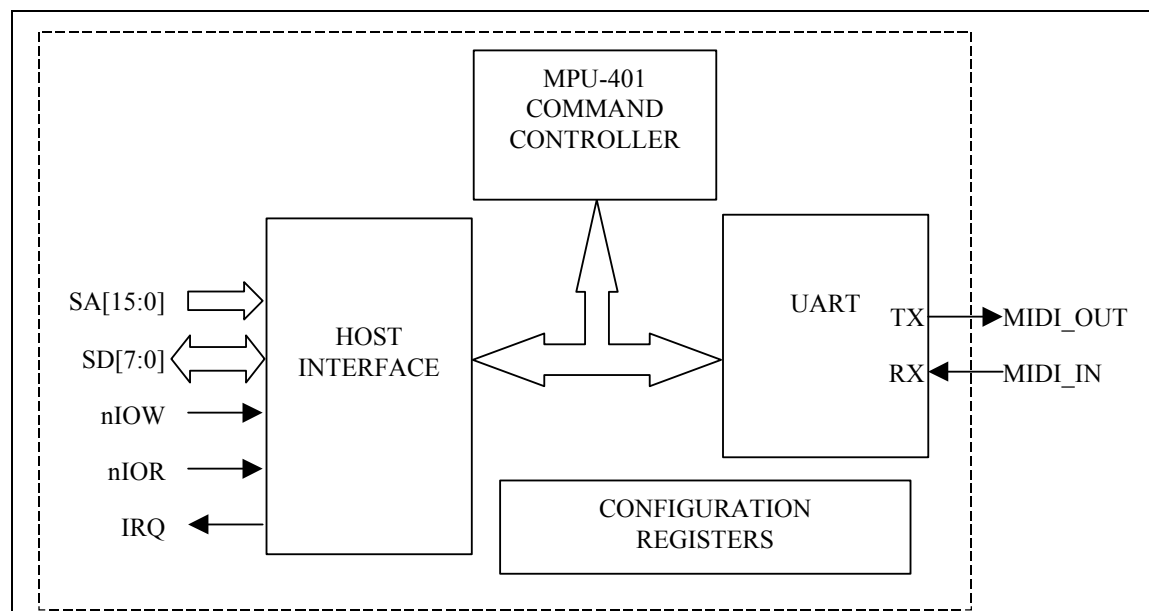

FIGURE 3 – MPU-401 MIDI INTERFACE
Serial Port 3 is used exclusively in the LPC47M14x as an MPU-401-compatible MIDI Interface. The LPC47M14x MPU-401 hardware includes a Host Interface, an MPU-401 command controller, configuration registers, and a compatible UART (FIGURE 3).
The Host Interface includes two contiguous 8-bit run-time registers (the Status/Command Port and the Data Port), and an interrupt. For illustration purposes, the Host Interface block shown in FIGURE 3 uses standard ISA signaling. Address decoding and interrupt selection for the Host Interface are determined by device configuration registers (see Section “MPU-401 Configuration Registers”).
**Note3** IRQ is the MPU-401 Host Interface IRQ shown in FIGURE 3. The 16C550A UART Receive FIFO Threshold=1.
Commands are written by the host to the MPU-401 MIDI Interface through the Command register (Table 34) and are immediately interpreted by the MPU-401 Command Controller shown in FIGURE 3. The MPU-401 Command Controller in this implementation only responds to the MPU-401 RESET (FFh) and UART MODE (3Fh) commands. All other commands are ignored.